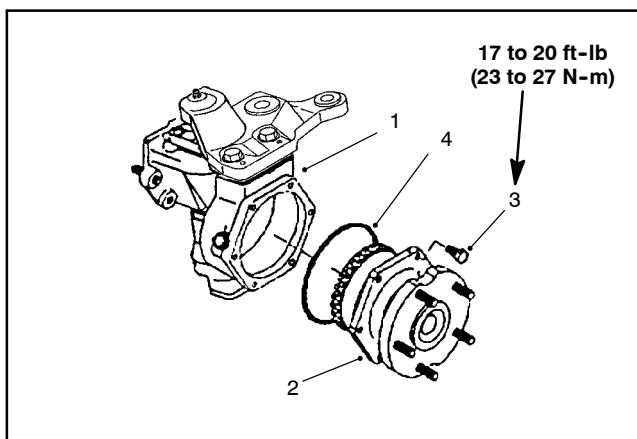

Figure 12
3. Remove the axle cover mounting screws. Remove the axle cover from the axle case as an assembly (Fig. 12).